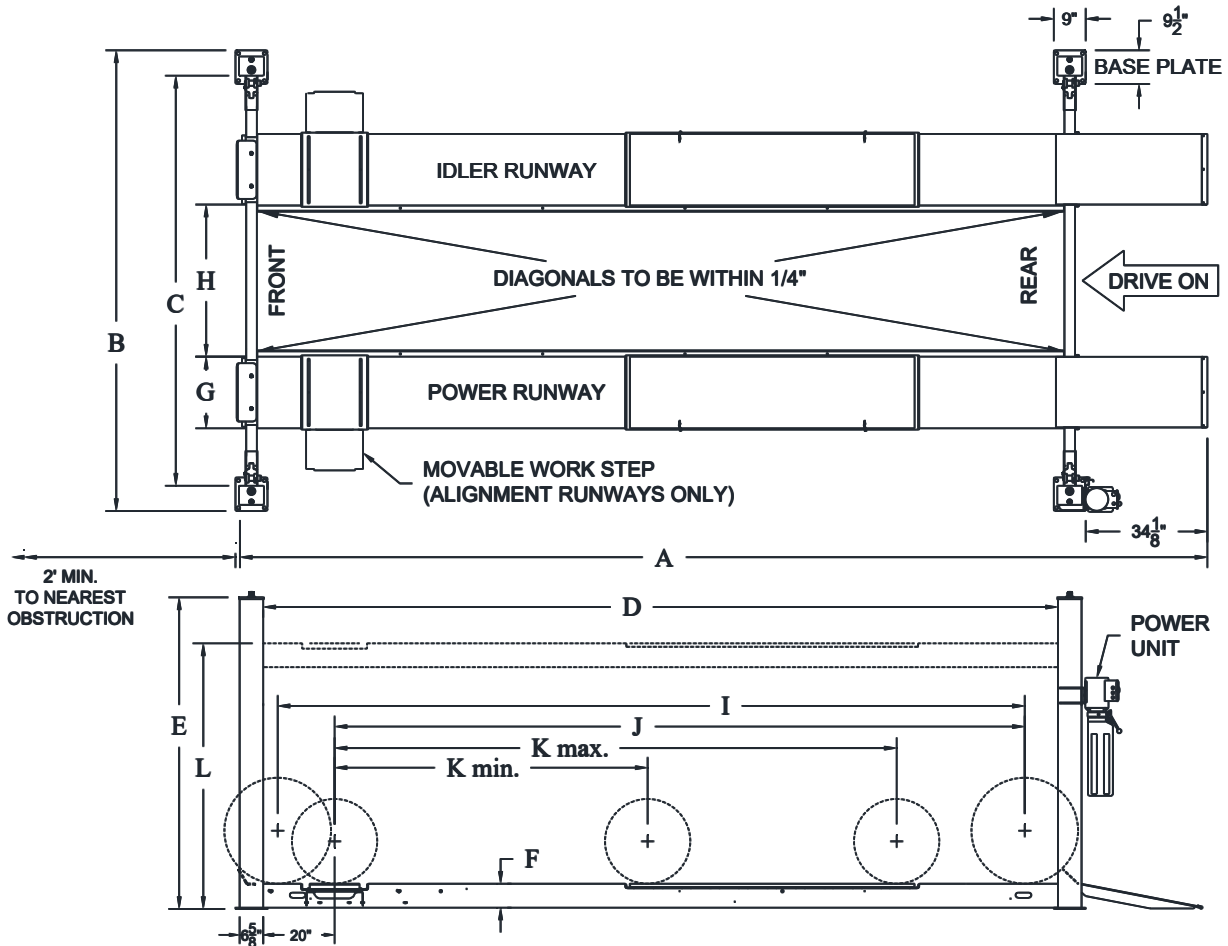

Fig 1 – General Specifications and Service Bay Layout
- 1) Lay out the service bay according to the architect's plans or owners instructions, **Fig 1**. Be certain that the proper conditions exist, see page 3.